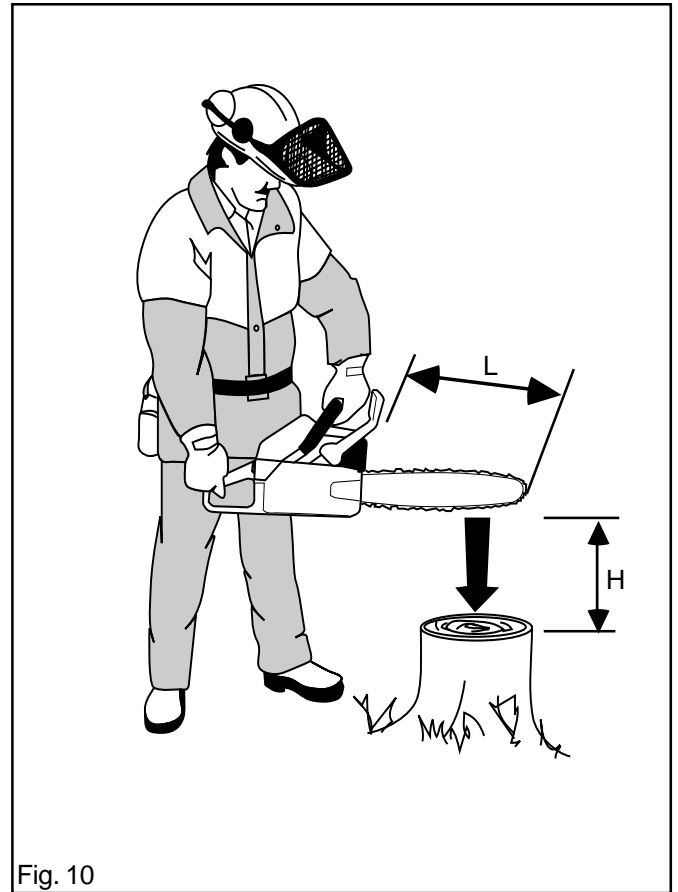

Fig. 10
1. Hold the chain saw over a stable surface as shown in fig. 10. The distance between the bar and surface is given in the table below.